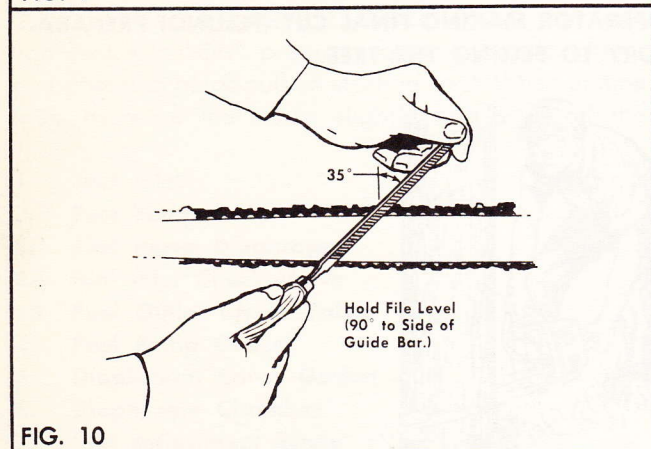

FIG. 10
5. The center cutters, located between the curved cutting teeth, should be filed with a flat file (See Fig. 10) after all the curved cutting teeth have been filed.